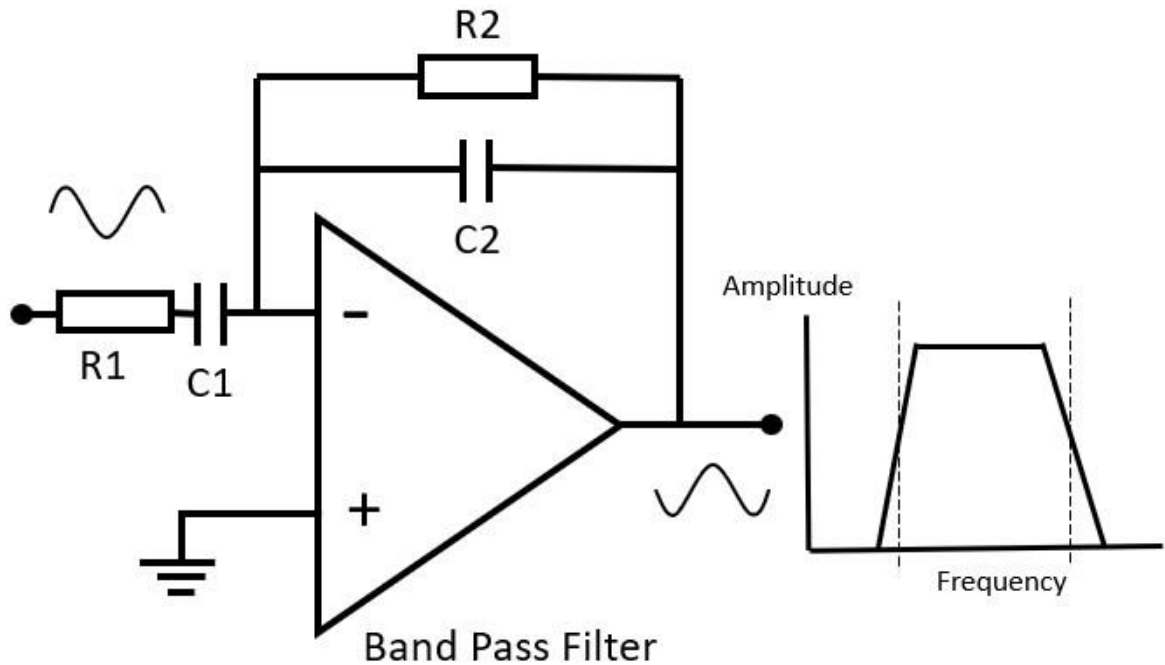

Figure 11: Band Pass Filter.
10. The Band pass filter is a unity gain amplifier. R_1 and C_1 determine the high pass cut off while R_2 and C_2 determine the low pass cut off (Figure 11).